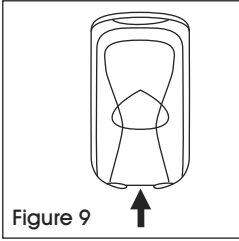

Figure 9
1. Open dispenser by pushing release on bottom of dispenser. (See Figure 9)